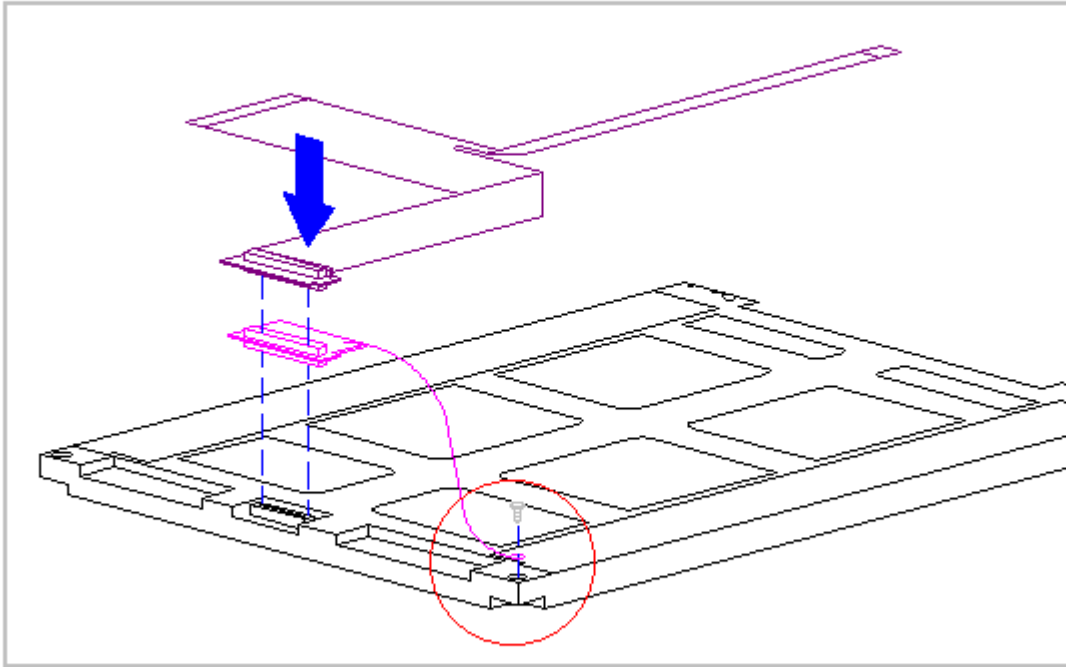

Figure 3-147 Removing the XOVER Board Ground Wire from the CSTN (10.4 inch) Panel (Models 420 and 430)
16. Only Sharp panels require the XOVER Board. Remove the ground wire connecting the XOVER Board with the CSTN (10.4 inch) Panel (Figure 3-147).